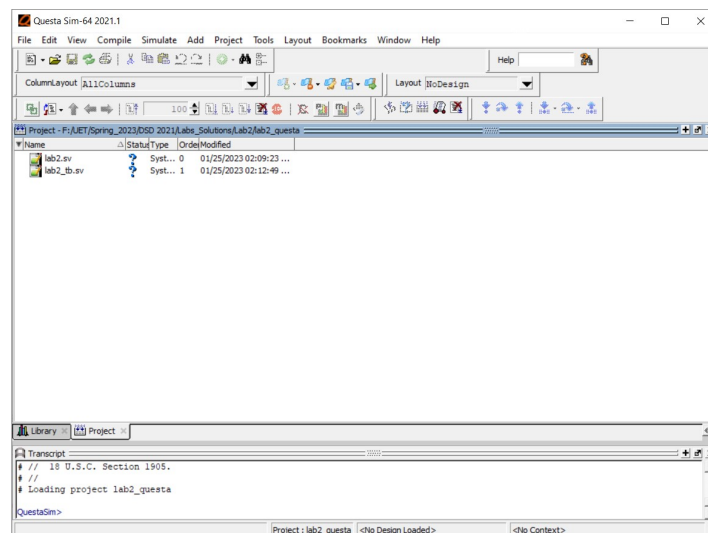

Fig. 2.7: QuestaSim project created.
- The two files will be added to QuestaSim project (Fig. 2.7).